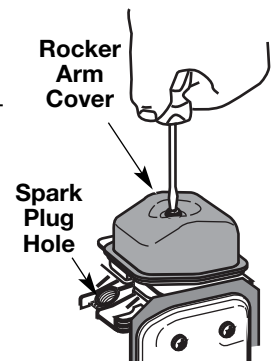

Fig. 32
- Clean dirt from around the rocker arm cover. Remove the screw holding the rocker arm cover with a large flat blade screwdriver or Torx T-25 bit (Fig. 32). Remove the rocker arm cover and gasket.